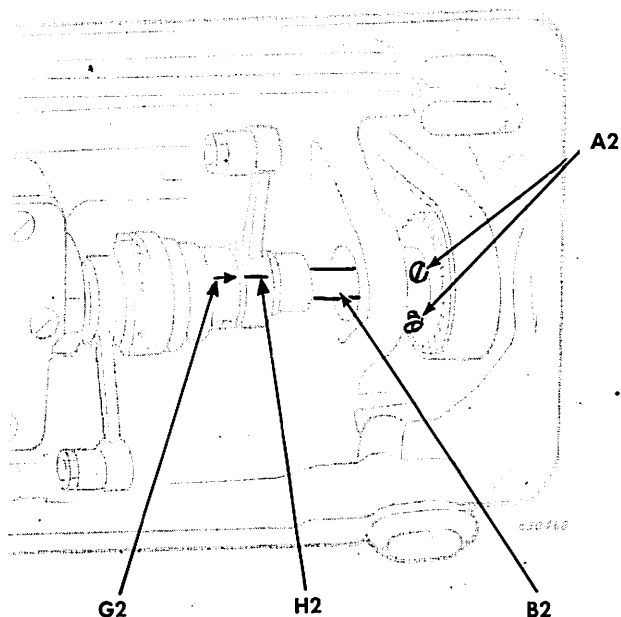
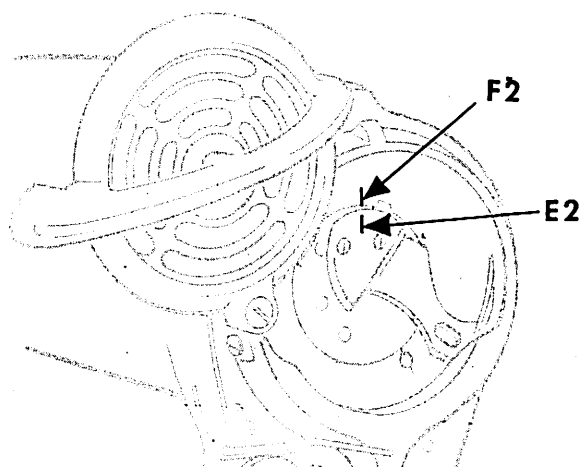

Fig. 48. Timing the Feed
Fig. 49. Timing Marks on Take-up and on Face Plate
- Timing line **G2**, Fig. 48 on feed driving eccentric collar in line with timing line **H2** on feed lifting connection, as shown in Fig. 48, at same time that timing line **E2**, Fig. 49 on rotary take-up is in line with timing line **F2** on face plate, as shown in Fig. 49.
- Loosen two screws **A2**, Fig. 48 on pulley.
- Turn hook driving shaft **B2**, Fig. 48, as required to obtain desired feeding movement.